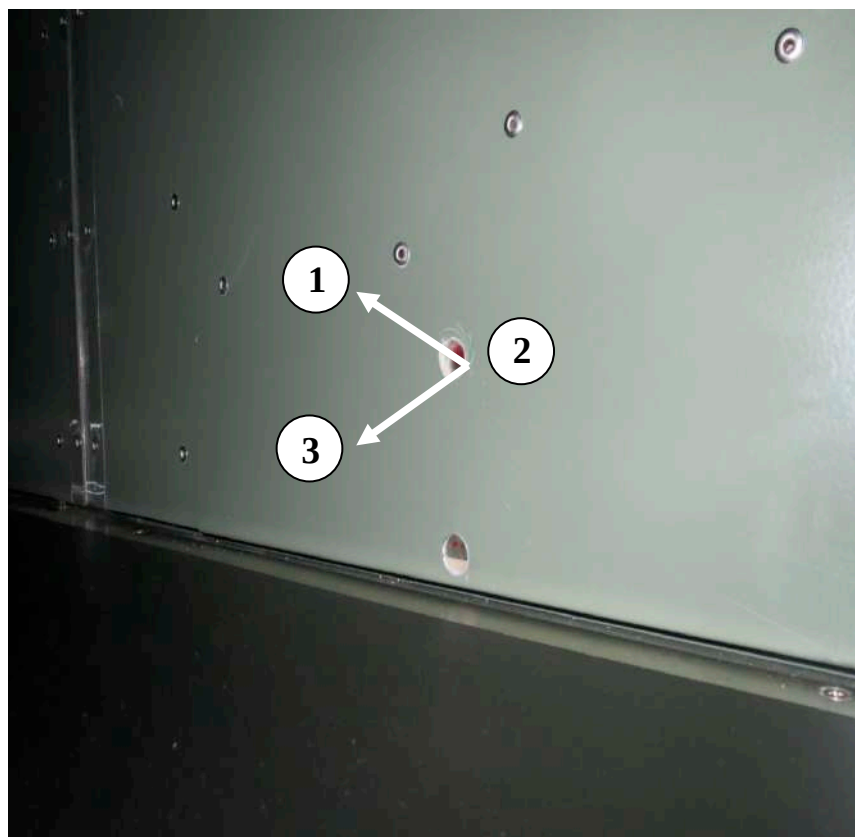

Figure 11-1 Photoelectric Sensor
Switch off the equipment, withdraw the key from the operation keyboard, and take the key with you. Check the status of the photoelectric sensor. The photoelectric sensor is installed on the inner side of the tunnel ①, as shown in Figure 11-1. Check whether the photoelectric sensor is blocked. Gently wipe the surface of the photoelectric sensor with a slightly damp cotton ball.